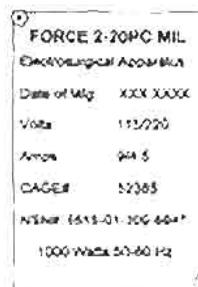

Figure 1-20. ES apparatus manufacturer data plate.
(6) The manufacturer data plate (located on the back of the ES apparatus) is depicted in figure 1-20.